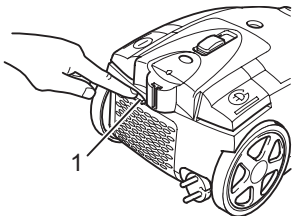

Fig. 25
2. Open the exhaust filter cover. To do this, press the release button (Fig. 25/1) down and pull the exhaust filter cover back and out.